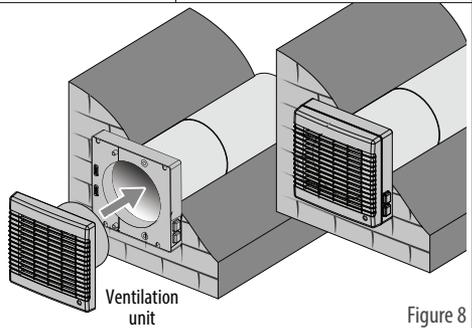

Figure 8
9. Attach the ventilation unit to the mounting plate (Figures 8).